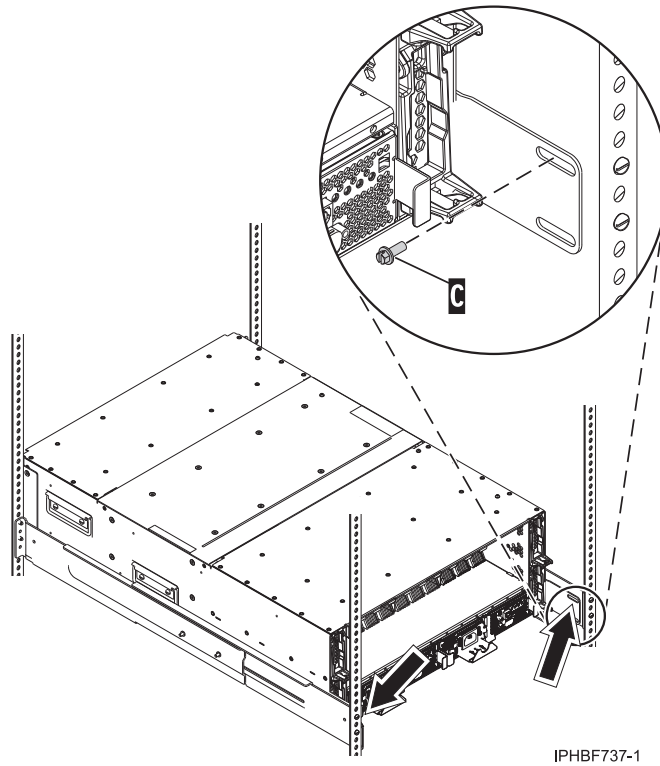

Figure 103. Securing the system to the back of the rack
4. If the securing plates are not preinstalled on the back of the system, attach the plates to the back left and back right of the system. The securing plates are illustrated in Figure 103 on page 101.